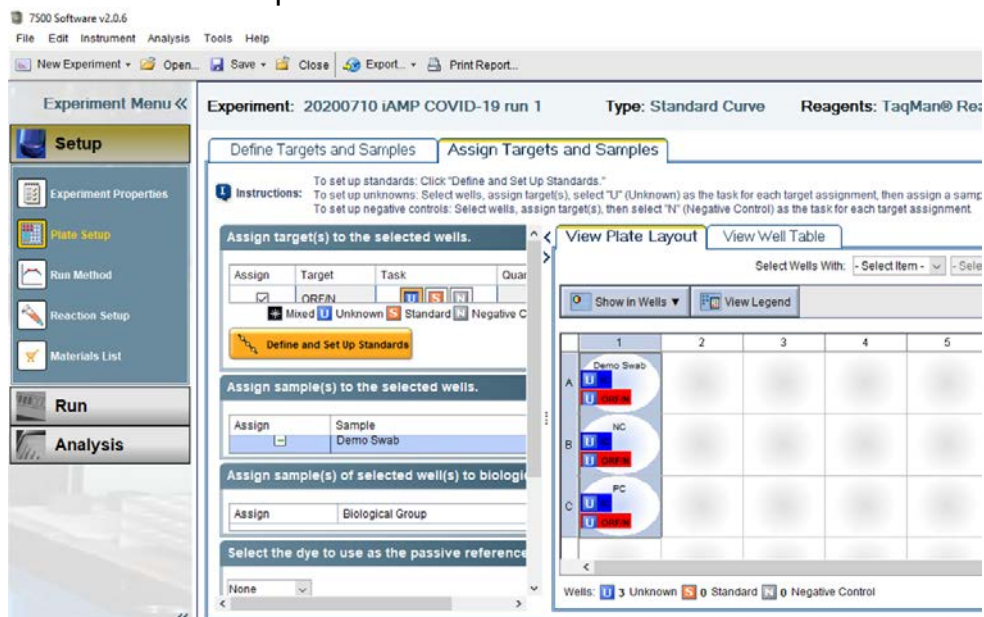

Figure 12. Assign targets and samples.
4. Assign target and sample information to the well location on 96 well plate, as shown in Figure 12. For the passive reference, select “None”. There is no need to define and set up standards.